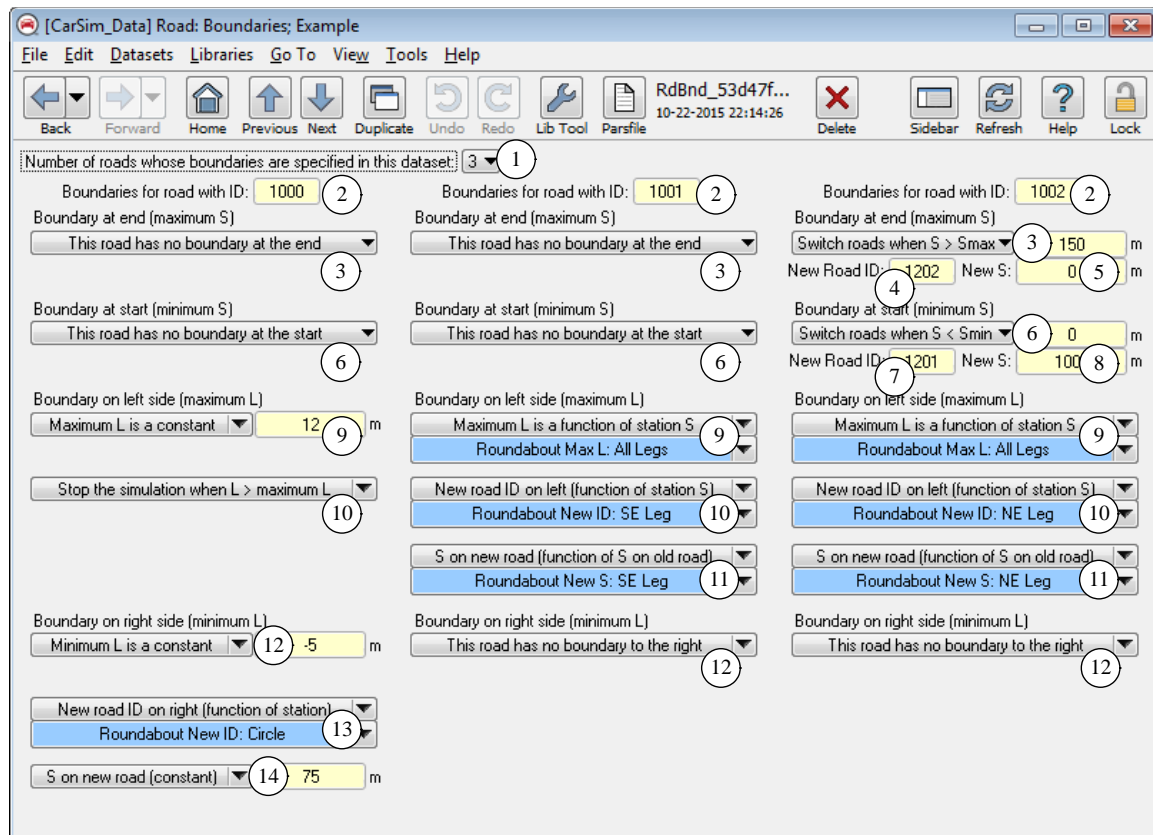
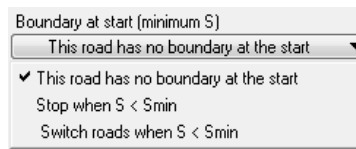
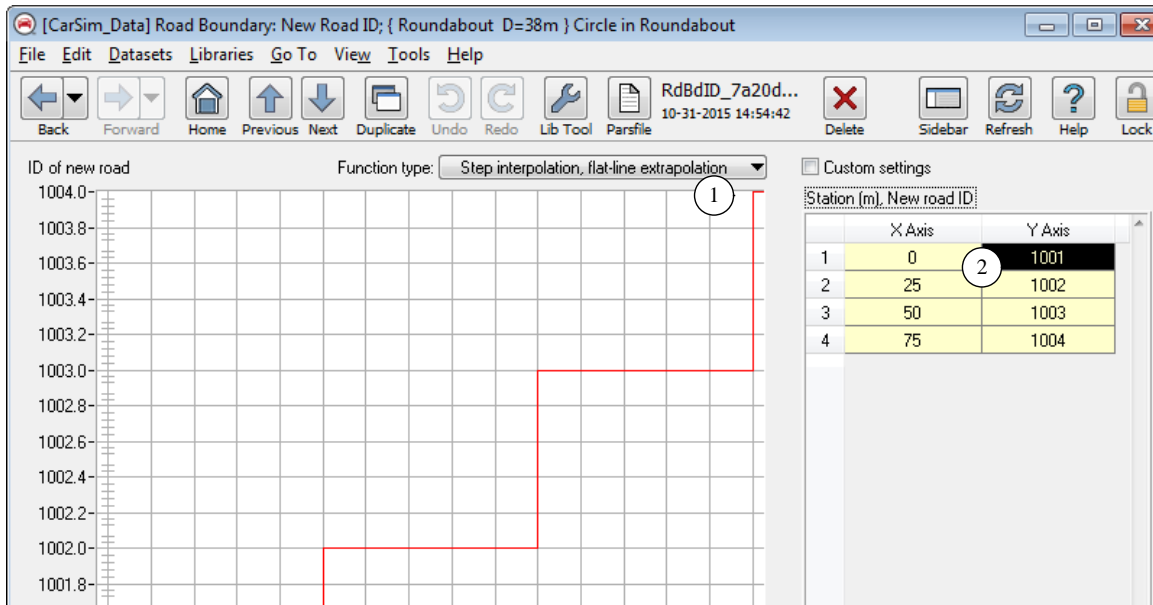

Figure 41. The Road: Boundaries library screen.
Figure 43. Drop-down control to choose an option for a boundary at the start of a road.
Figure 49. New Road ID as a function of station for the roundabout circle.
The boundaries can be set using the Road: Boundaries library (Figure 41). The screen is organized into three columns of settings, where each column defines boundaries for one road surface.
If there are multiple roads and the **Road: Boundaries** datasets are used to switch between roads, such as what is shown in Figure 41, then it is best to group the roads together using one of the Generic screens (e.g., **Generic Data Group** or **Generic Group of Links**), then link to the **Road: Boundaries** datasets after the roads. This ensures that the IDs for the roads are defined prior to them being used on the **Road: Boundaries** datasets. For example, the VS Solver will generate an error if a road with ID 1234 is specified on this screen and no road with that ID can be found.
2. There is a boundary, and when any moving point of interest reaches the boundary, the simulation stops. When this option is selected, the parameter ROAD_SMAX_NEW_ID is set to -1. An adjacent yellow field is shown (see the third column in Figure 41) to specify the maximum station (keyword = ROAD_SMAX).
3. There is a boundary, and when any moving point of interest reaches the boundary, the math model automatically switches the road for the point to another one. An adjacent yellow field is shown (see the third column in Figure 41) to specify the maximum station (keyword = ROAD_SMAX). Two other fields are shown: one to specify the ID of the new road ④, and the other to specify an estimate for the station on the new road ⑤.
- ④ Yellow field to specify the ROAD_ID for an existing road (keyword = ROAD_SMAX_NEW_ID). If the station of a point of interest exceeds the specified maximum station ③, the VS Solver will switch to the road with this ID. If there is no road with the specified ID, the VS Solver will report an error and cancel the simulation.
- ⑤ Yellow field to specify the initial station for a point of interest if it changes from the current road ② to a new road ④ when exceeding the maximum station ③. The keyword for the new station is ROAD_SMAX_NEW_S. This only needs to be an approximation; once the point of interest is located on the new road, the estimate provided here is replaced with the actual value of station S on the new road.
- ⑥ Drop-down control to specify an option for a boundary at the start of the road (Figure 43). If a boundary exists, it is located at a specified minimum station S.
2. There is a boundary, and when any moving point of interest reaches the boundary, the simulation stops. When this option is selected, the parameter ROAD_SMIN_NEW_ID is set to -1. An adjacent yellow field is shown (see the third column in Figure 41) to specify the minimum station (keyword = ROAD_SMIN).
3. There is a boundary, and when any moving point of interest reaches the boundary, the math model automatically switches the road for that point to another one. An adjacent yellow field is shown (see the third column in Figure 41) to specify the minimum station (keyword = ROAD_SMIN). Two other fields are shown: one to specify the ID of the new road ⑦, and one to specify an estimate for the station for the point on the new road ⑧.
- ⑦ Yellow field to specify the ROAD_ID for an existing road (keyword = ROAD_SMIN_NEW_ID). If the station of a point of interest exceeds the specified minimum station ⑥, the VS Solver will switch to the road with this ID. If there is no road with the specified ID, the VS Solver will report an error and cancel the simulation.
- ⑧ Yellow field to specify the initial station for a point of interest if it changes from the current road ② to a new road ⑦ when crossing the boundary at the minimum station ⑥. The keyword for the new station is ROAD_SMIN_NEW_S.
2. There is a boundary, and it is defined with a constant L value. In this case, another control is shown to specify what happens when the limit in L is reached (⑩), and an adjacent yellow field is shown (see the first column in Figure 41) to specify the maximum L (keyword = $ROAD_L_BOUNDARY_CONSTANT$).
3. There is a boundary, and it is defined with a Configurable Function that calculates the maximum L as a function of S . In this case, another control is shown to specify what happens when the limit in L is reached (⑩), and a link under the control is made to a dataset from the **Road Boundary: Lateral Edge** library (see columns 2 and 3 in Figure 41) to calculate the maximum L (keyword = $ROAD_L_BOUNDARY$).
2. When any moving point of interest reaches the boundary, the math model automatically switches the road for that point to another one whose ID is calculated as a function of station using a linked dataset from the library **Road Boundary: New Road ID**. The link for the dataset is just under the control, as shown for columns 2 and 3 in Figure 41. Another control is shown to specify how station is estimated on the new road ⁽¹¹⁾.
2. When a point of interest reaches the boundary and goes to a new road, the math model automatically calculates the station using the function ROAD_NEW_S. A link for the dataset from the **Road Boundary: New Station** library is just under the control, as shown for columns 2 and 3 in Figure 41.
- ⑫ Drop-down control to specify an option for a boundary for the right side of the road. This has the same options as offered for the left side ⑨ (Figure 41), except the limits are defined with minimum L values rather than maximum.
- ⑬ Drop-down control to specify what happens when a point of interest reaches the right boundary of the road. This has the same options as offered for the left side ⑩ (Figure 41) except the new ID is for the road on the right side.
- ⑭ Drop-down control to specify station for a point of interest is set if it crosses the right boundary and goes to a new road. This has the same options as offered for the left side ⑪ (Figure 41, page 54).
In the case of the circle, the boundary from the circle to the legs can be anywhere outside the hatched area in the figure. The first column of settings shown in the **Road Boundaries** screen in Figure 41 (page 54) was used for this circle. The road is looped, so there are no minimum or maximum station values. The limit for the outside (travelling counter-clockwise) is $L = -5$ m, well beyond the visible lane edge at -2.1 m. A linked dataset defines the road ID as a function of ring station when this boundary is crossed (Figure 49). Notice that the function is set to use Step Interpolation ^①. With the four rows in the table, the only calculated values will be the integers 1001 – 1004 ^②.
For each leg, the boundaries were set as shown earlier (Figure 41) in column 2 for road 1001. There is no boundary set for the right edge. For the left edge, the limit is at 2.1 m for the straight sections (0 to 50 to enter, and 100 to 150 to exit). When defining the boundary with the circle (ID = 1000), a boundary is defined that is within the circle region